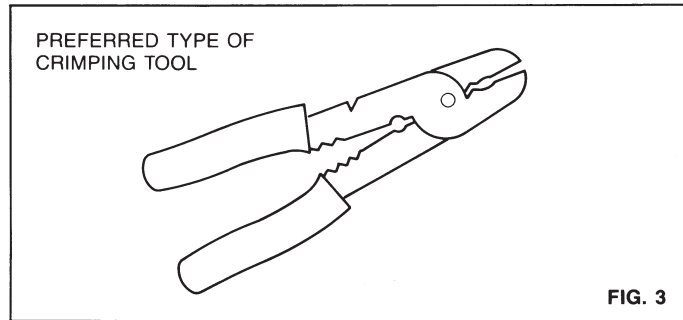

FIG. 3
3) Using the illustrated (Refer to Fig. 3) preferred type of crimp tool, crimp the connectors to the stripped wires making sure the wires are fully inserted in the connectors before crimping them.